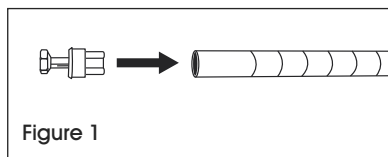

Figure 1
1. Ensure post is positioned as shown. (See Figure 1)